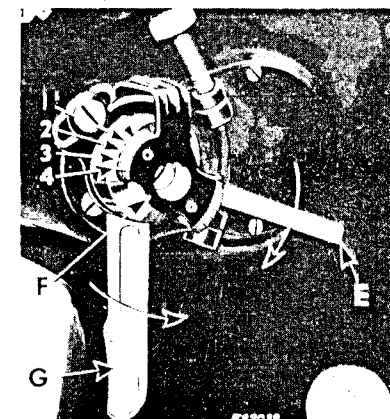

Fig. 26. Bight Control Mechanism (straight stitching)
The sidewise position of the needle during straight or zigzag stitching is determined by the setting of the **NEEDLE BAR POSITION LEVER G, Fig. 26**.
The width of the bight is determined by the setting of the **BIGHT CONTROL LEVER E, Fig. 26**.
When the bight control lever **E, Fig. 26** is at its **lowest position**, the machine is set at **ZERO BIGHT** and should perform **straight stitching** only, as shown in **Fig. 21**.
The bight control lever **E** may also be set at positions #1, #2 or #3 on the **BIGHT CONTROL SCALE F, Fig. 26**; thus setting the width of bight to one of those shown in **Figs. 22, 23 or 24**, respectively.
**SETTINGS:** Bight control lever **E** at **lowest** point (ZERO BIGHT) and position lever **G** at **lowest** point (CENTRAL POSITION), as shown in Fig. 26, page 15.
**CAUTION:** A machine equipped with straight stitching throat plate and presser foot must always be set as described above (see also Fig. 26).